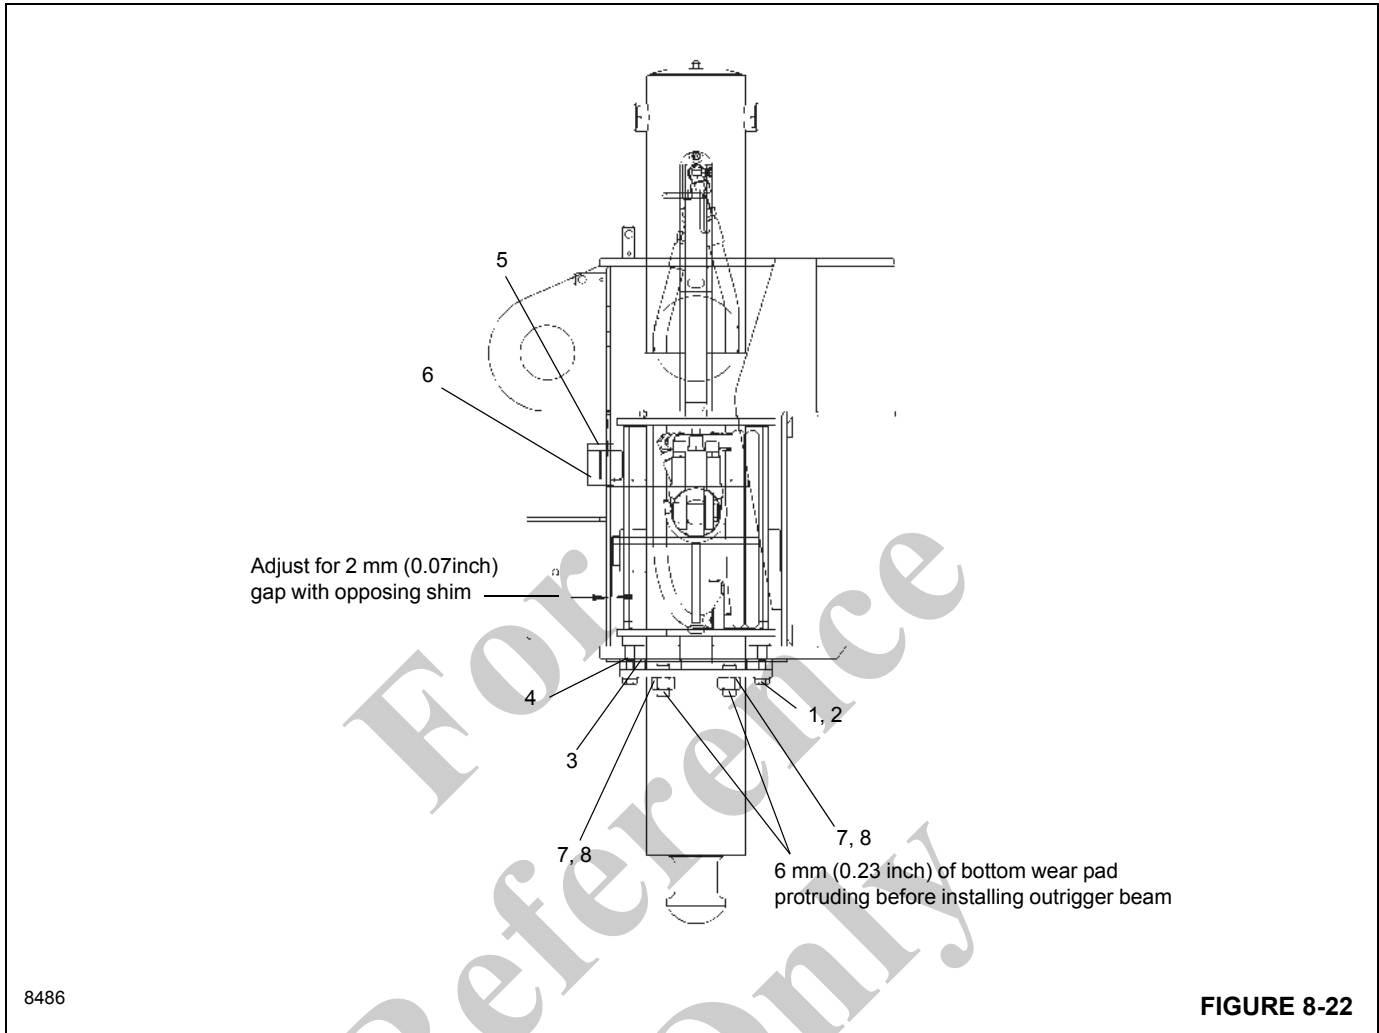

FIGURE 8-22
3. Install the bottom wear pads with approximately 6 mm (0.23 in) protruding. This will prevent the beam side plates from riding on the bottom of the box (Figure 8-22).
NOTE: When adjusting wear pads, refer to Wear Pad Adjustment (Figure 8-22).